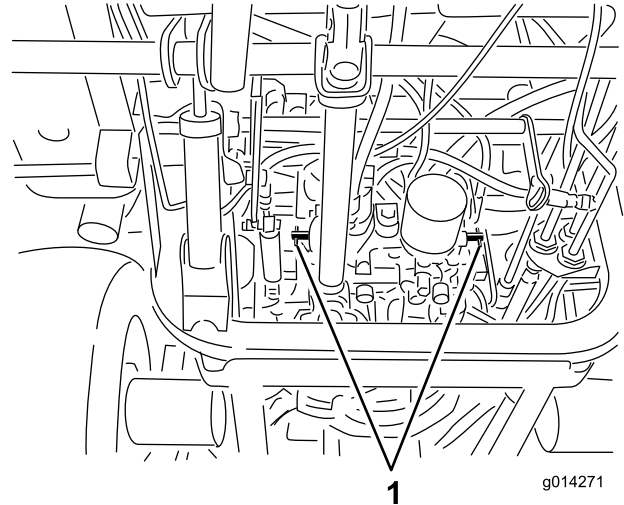

Figure 49
4. Rotate each bypass valve counterclockwise 1 turn (Figure 49).
1. Rotate each bypass valve clockwise 1 turn and hand tighten them (Figure 49).
2. Torque the valves approximately 8 N·m (71 in-lb) as shown in Figure 49.